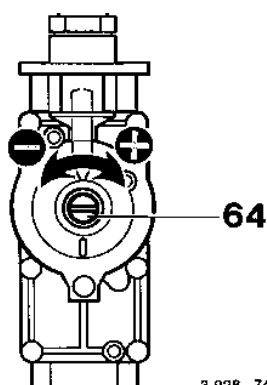

Fig. 41
- ▶ Adjust the gas flow restrictor (63) to obtain the CO2 level given in Table 15. Refer to fig. 41.
- ▶ Remove the seal from the gas valve adjusting screw (64) and adjust the CO2 level to the figure given in Table 15 for min. rated heat output. Refer to fig. 41.